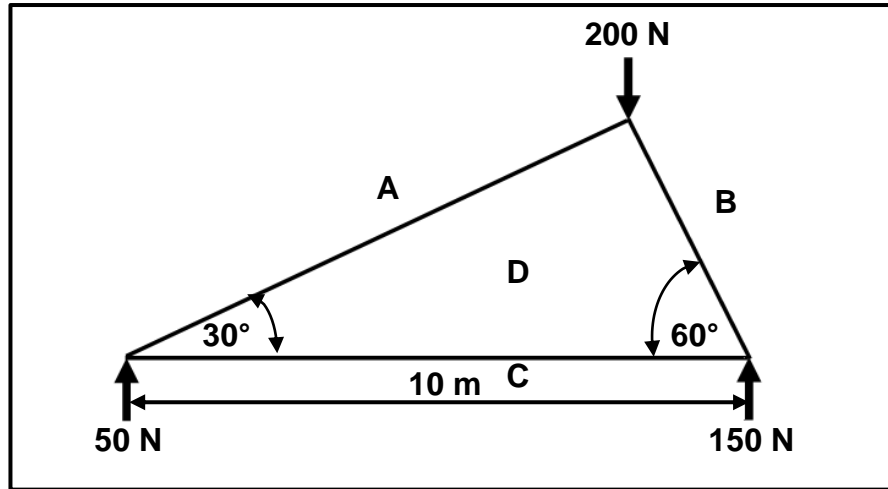

FIGURE 7.3
7.3 FIGURE 7.3 below shows a roof truss. Study the diagram and answer the questions that follow.